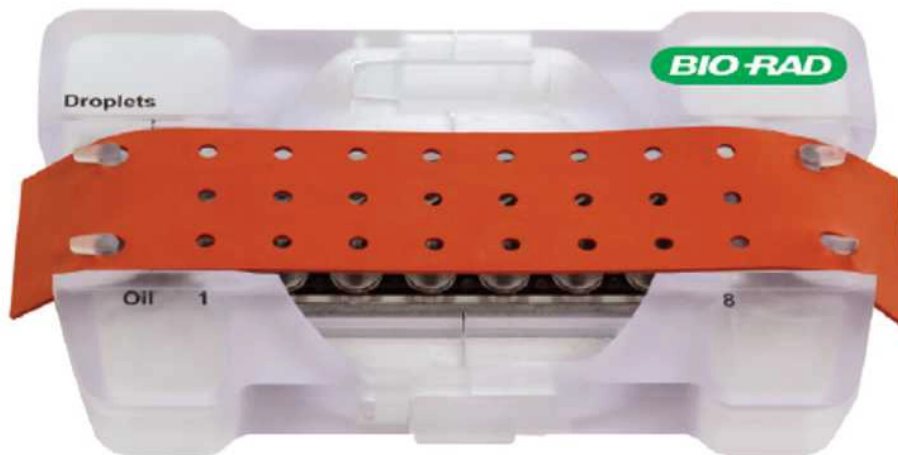

Figure 2: Correct placement of the gasket over the cartridge holder
- Place a DG8 gasket for ddPCR on the DG8 cartridge (Figure 2)